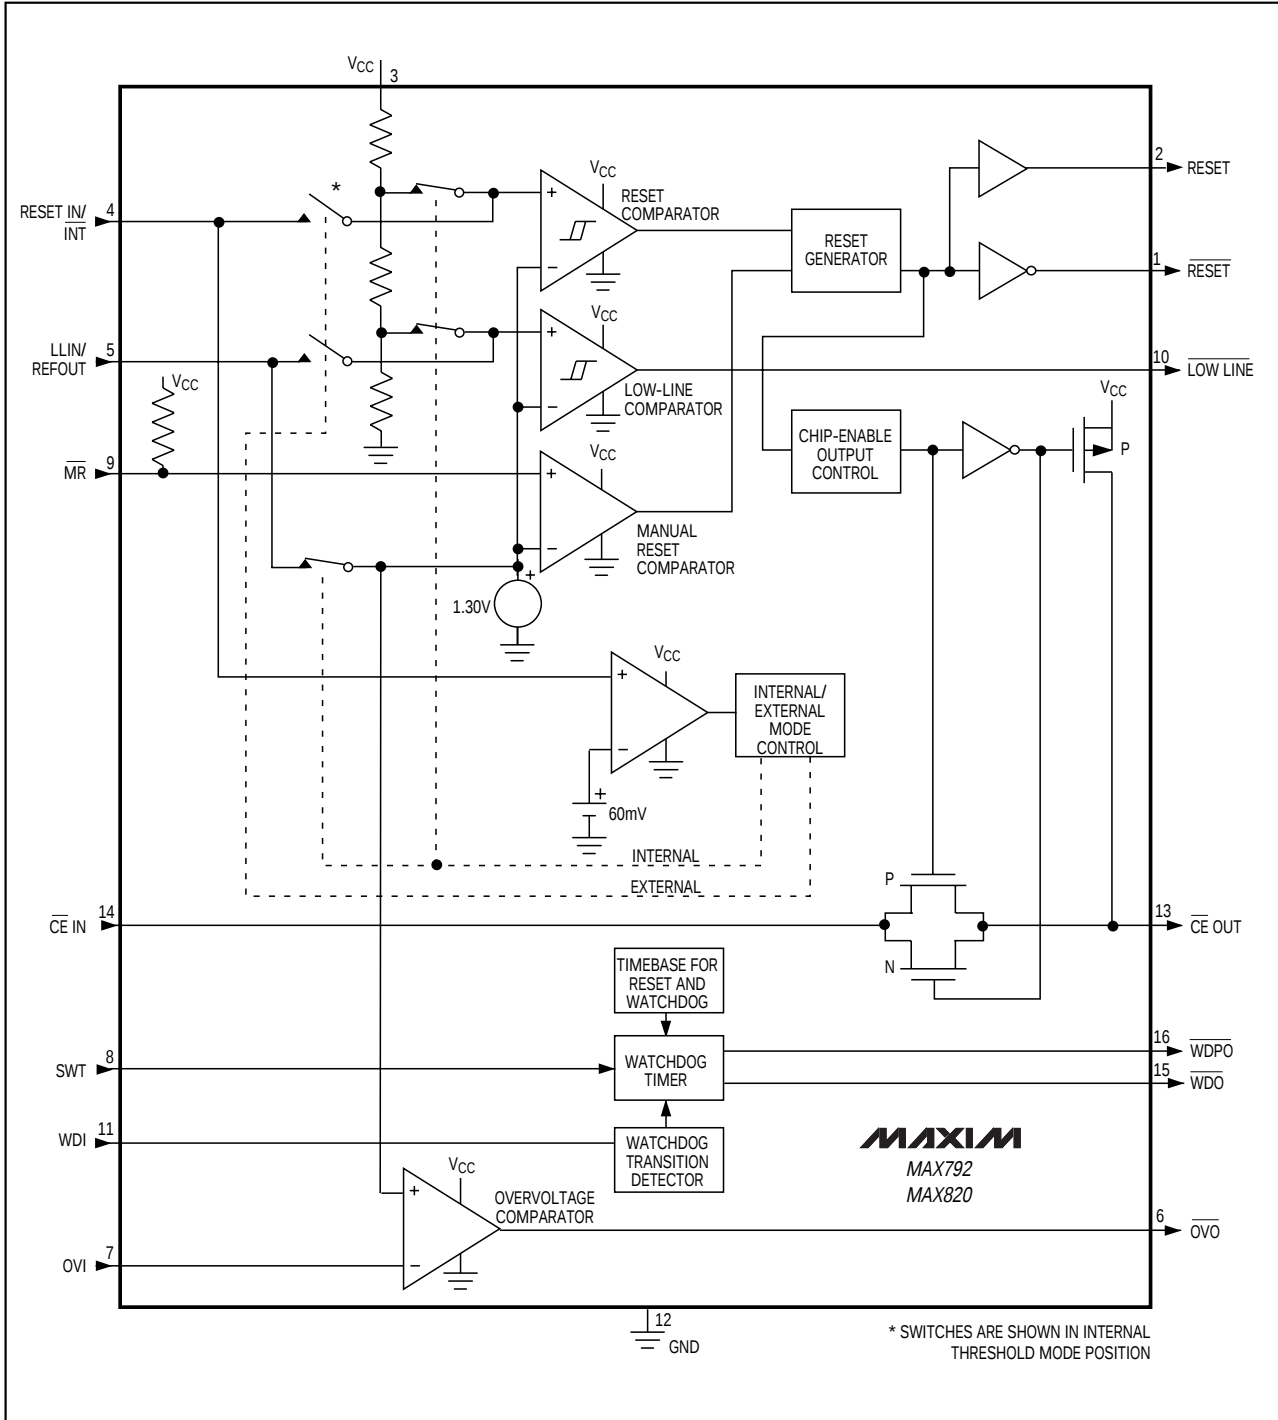
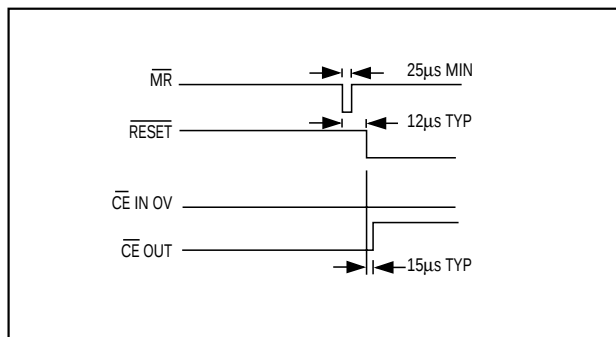
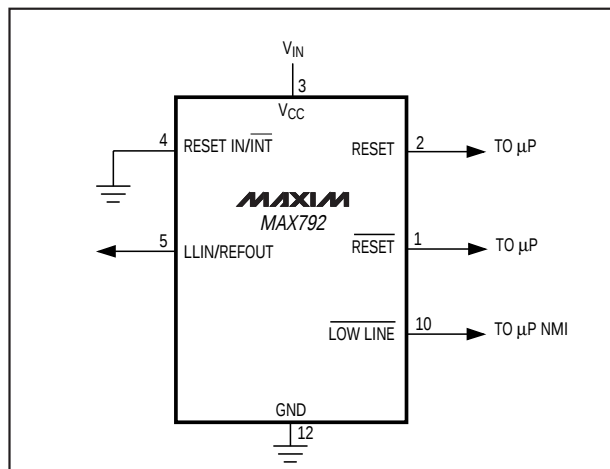
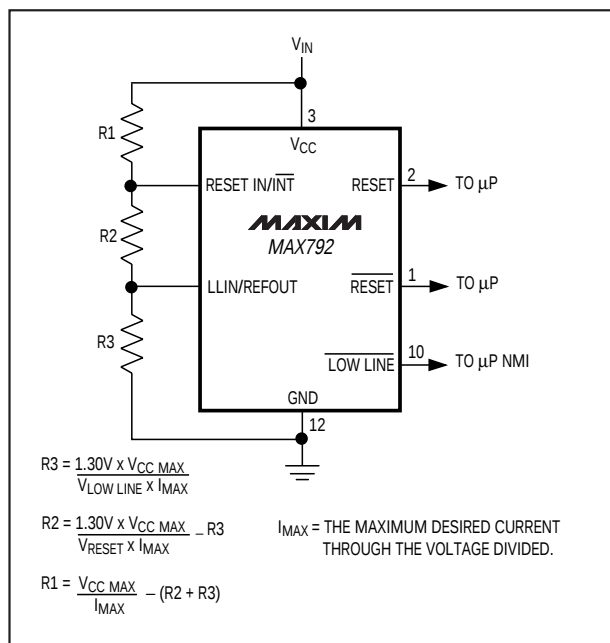

Figure 1. Block Diagram
Figure 2. Manual-Reset Timing Diagram
Figure 4a. Connection for Internal Threshold Mode
Figure 4b. Connection for External Threshold Programming Mode
Many μ P-based products require manual-reset capability, allowing the operator to initiate a reset. The manual/external-reset input ($\overline{MR}$) can connect directly to a switch without an external pull-up resistor or debouncing network. $\overline{MR}$ internally connects to a 1.30V comparator, and has a high-impedance pull-up to V_{CC} , as shown in Figure 1. The propagation delay from asserting $\overline{MR}$ to reset asserted is typically 12 μ s. Pulsing $\overline{MR}$ low for a minimum of 25 μ s asserts the reset function (see *Reset Function* section). The reset output remains active as long as $\overline{MR}$ is held low, and the reset timeout period begins after $\overline{MR}$ returns high (Figure 2). To provide extra noise immunity in high-noise environments, pull $\overline{MR}$ up to V_{CC} with a 100k Ω resistor.
Connecting the reset-input/internal-mode select pin (RESET IN/ $\overline{INT}$) to ground selects internal threshold mode (Figure 4a). In this mode, the low-line and reset thresholds are factory preset by an internal voltage divider (Figure 1) to the threshold voltages specified in the *Electrical Characteristics* (Reset Threshold Voltage and Low-Line Threshold Voltage). Connect the low-line output ($\overline{LOWLINE}$) to the μ P NMI pin, and connect the active-high reset output (RESET) or active-low reset output ($\overline{RESET}$) to the μ P reset input pin.
Connecting RESET IN/ $\overline{INT}$ to a voltage above 600mV selects external programming mode. In this mode, the low-line and reset comparators disconnect from the internal voltage divider and connect to LLIN/REFOUT and RESET IN/ $\overline{INT}$, respectively (Figure 1). This mode allows flexibility in determining where in the operating voltage range the NMI and reset are generated. Set the low-line and reset thresholds with an external resistor divider, as in Figure 4b or Figure 4c. RESET typically remains valid for V_{CC} down to 2.5V; $\overline{RESET}$ is guaranteed to be valid with V_{CC} down to 1V.
Calculate the values for the resistor voltage divider in Figure 4b using the following equations:
The MAX792/MAX820 provide internal gating of chip-enable (CE) signals, which prevents erroneous data from corrupting CMOS RAM in the event of an under-voltage condition. The MAX792/MAX820 use a series transmission gate from $\overline{\text{CE}} \text{ IN}$ to $\overline{\text{CE}} \text{ OUT}$ (Figure 1).